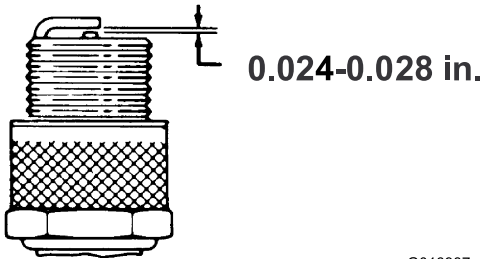

Figure 27
- Ensure that the air gap is correct (Figure 27).